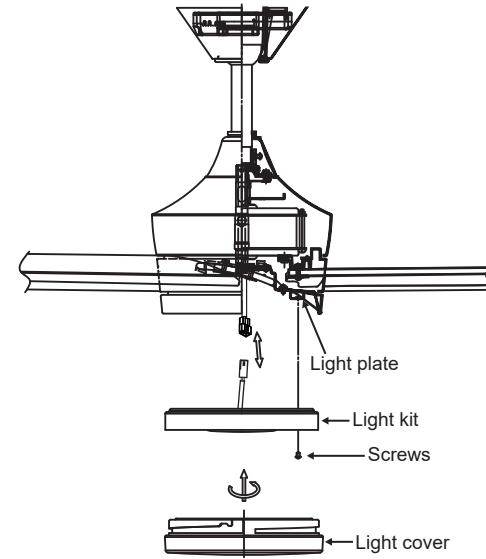

Fig. 16
Step 1. While holding the LED light kit under your fan, make the polarized plug connections: (Fig. 16)